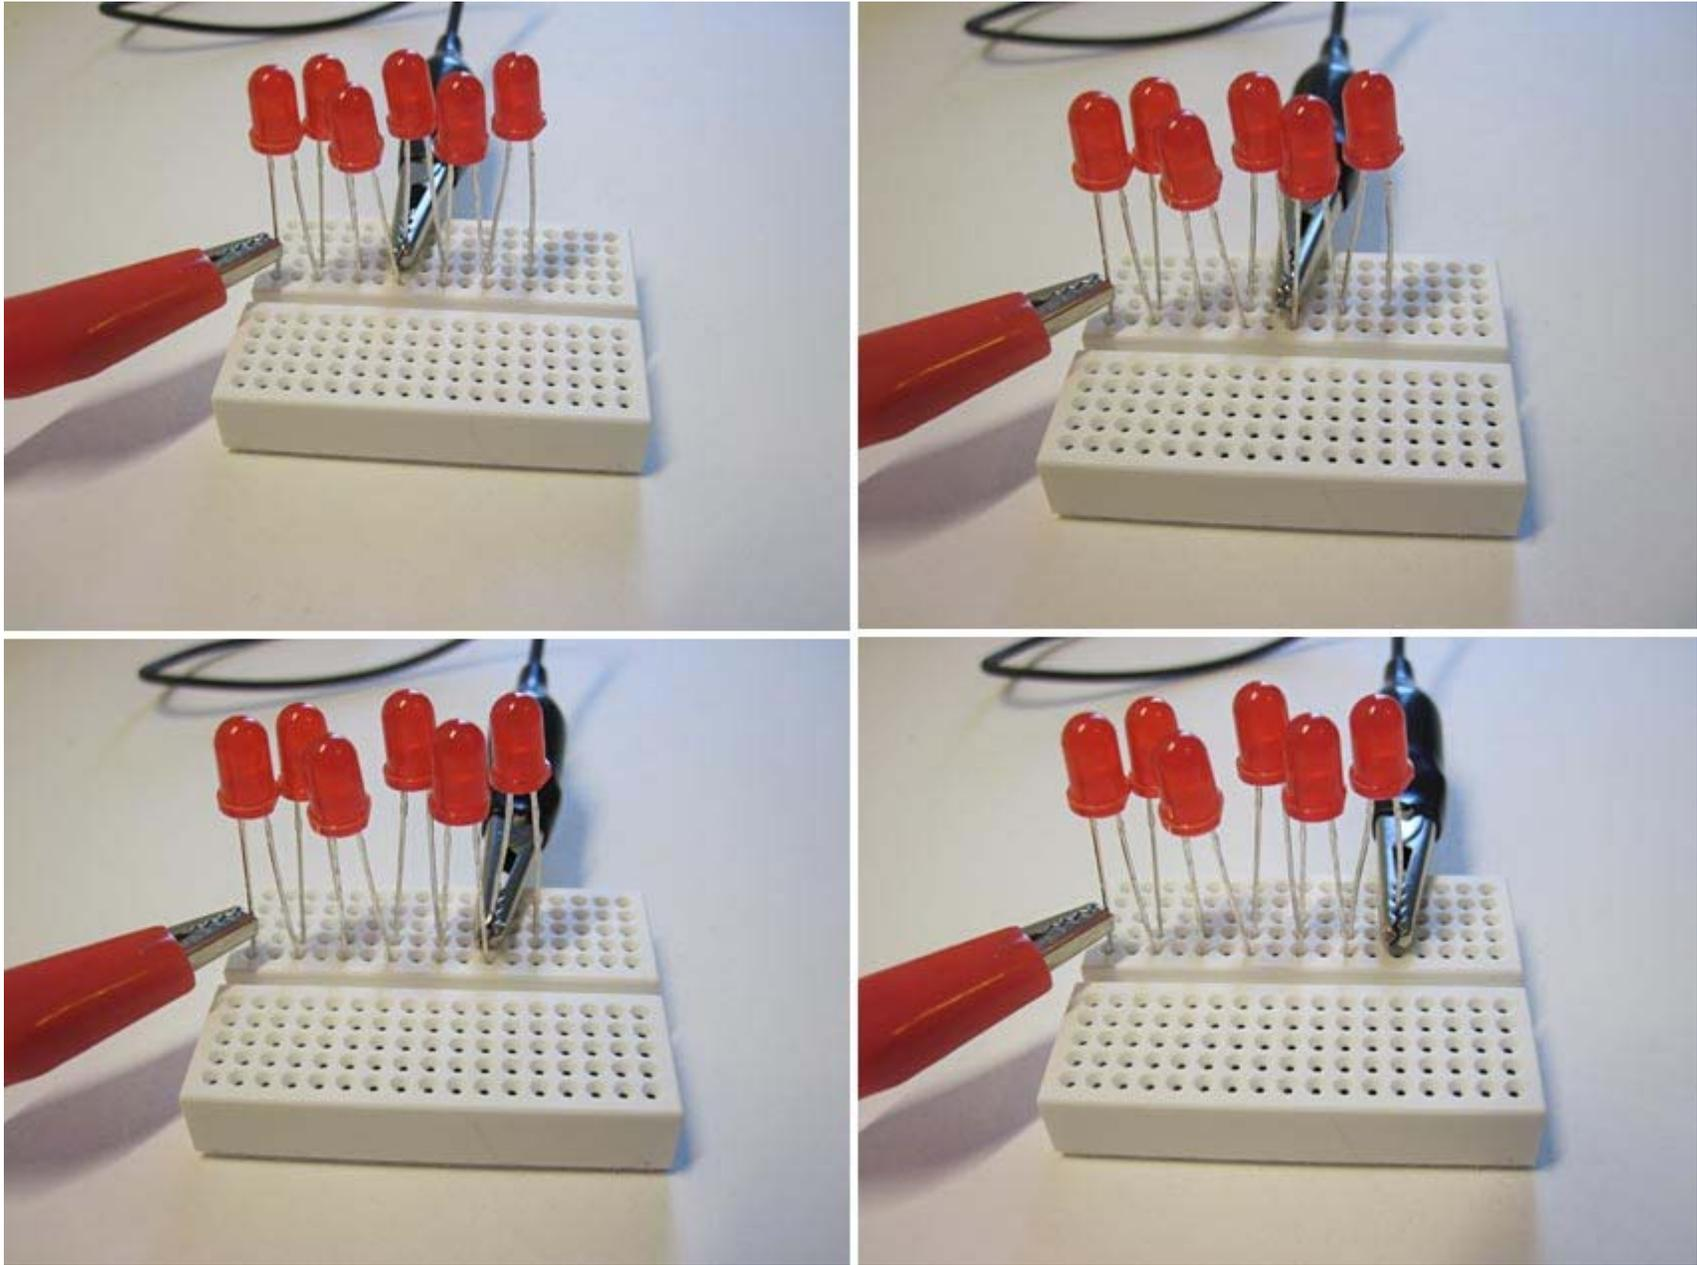

Figure 14. The black alligator clip connected to the third, fourth, fifth, and sixth LEDs (top left, top right, bottom left, and bottom right, respectively).
- a. Each time, move the black alligator clip to the shorter (right-hand) lead of the next LED (or the longer, left-hand lead of the LED after that), as shown in Figure 14.